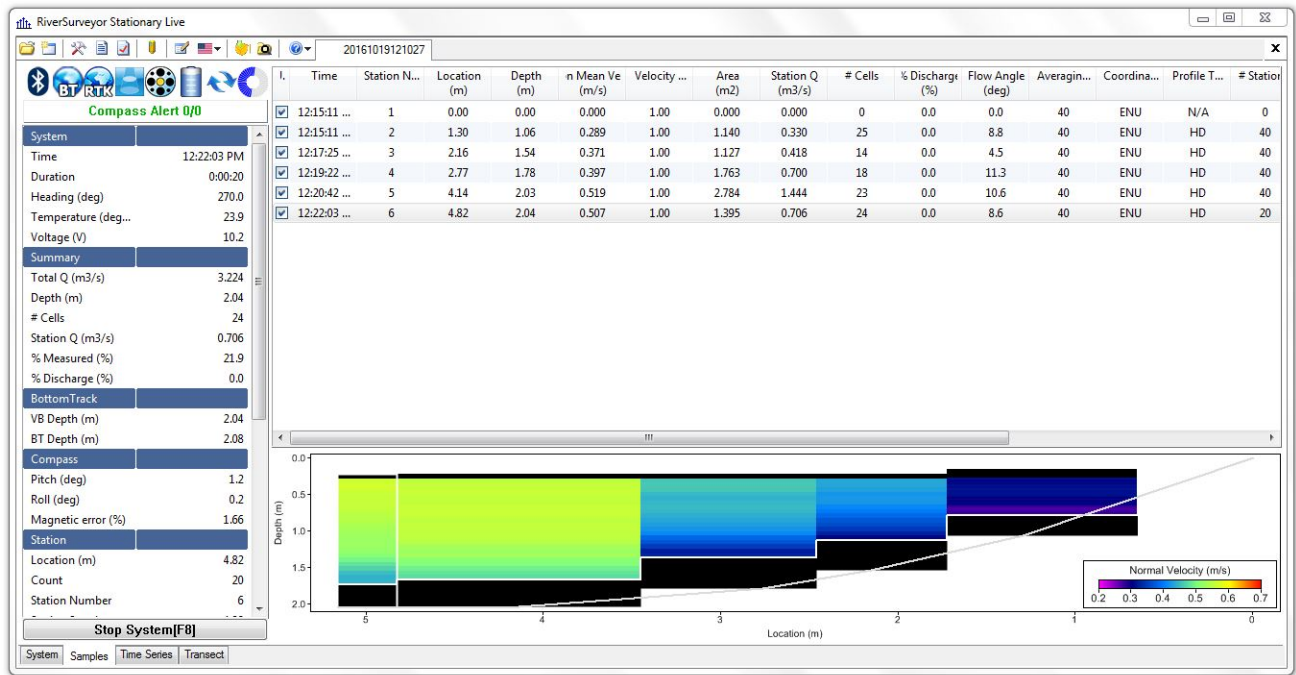

Figure 170. Samples Tab
- **Samples Tab:** You will be able to view information from each station in a tabular format. An example of the samples tab is shown in Figure 170. Through this tab, you will be able to edit stations by clicking the **edit stations** button for each station. This will bring up the Station Dialog, where you can edit the setup parameters for each station at any time. When editing stations, you can enable Use GPS or disable it and add a manual location. The GPS data from each station will be recorded if there is a GPS lock, regardless of whether Use GPS is enabled or not, so that the decision to use GPS can be changed for each station at a later time.